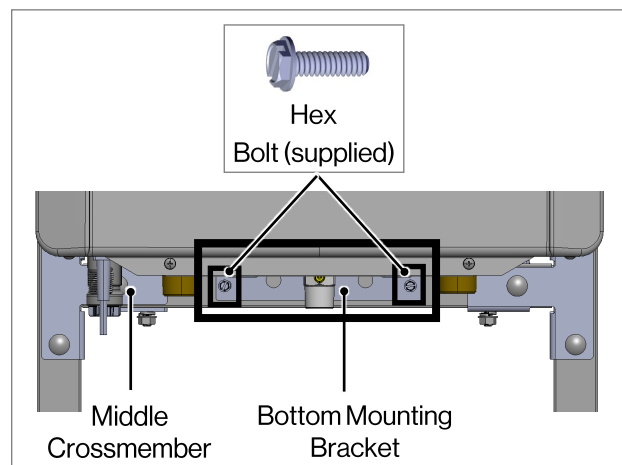

Fig. 12
10. Secure the bottom mounting bracket to the Middle Crossmember using two (2) Hex Bolts (supplied) (Fig 12).